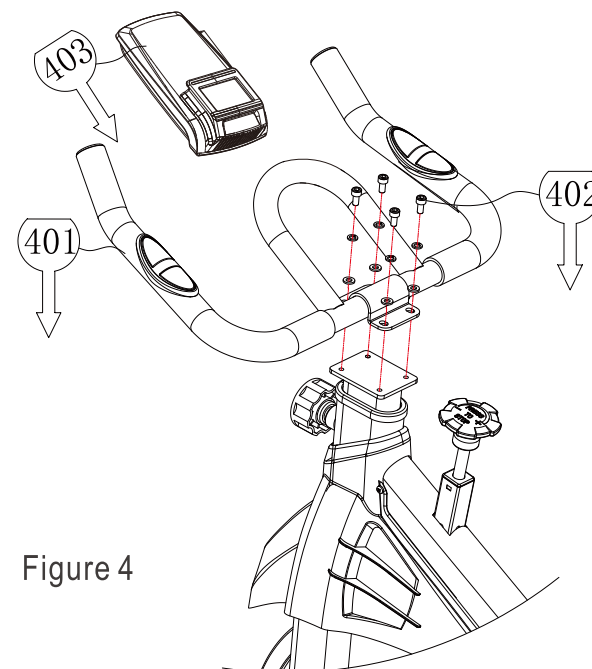

Figure 4
4. As shown in step 401 of Figure 4, align the four mounting holes in the middle of the "handlebar" with the four M6 fixing screw holes on the front end of the "main frame";
As shown in step 402 in Figure 4, four "hexagonal head cap screws M6 x 12" are sequentially inserted into the "elastic washer $\Phi 6.7 \times 1.6$ " and "flat washer $\Phi 6.6 \times \Phi 12 \times 1.6$ " and then passed through. Screw the "handle" mounting hole into the front fixing screw hole on the "main frame" and tighten the screw with a "5# hex wrench".
As shown in step 403 of Figure 4, the electronic computer display is inserted into the iron piece of the handrail, and the terminal connection line on the electronic watch is connected;